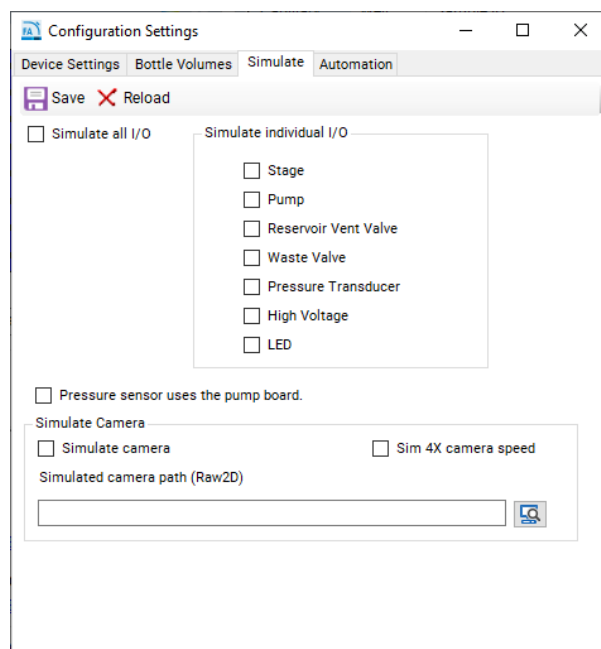

Figure 109 5400 Fragment Analyzer Simulate configuration menu
- 3 Select the **Simulate** tab (**Figure 109**).
In **Figure 109**, all individual components except the stage mechanism are simulated, enabling to test stage movement while simulating pumping and high voltage separation methods.